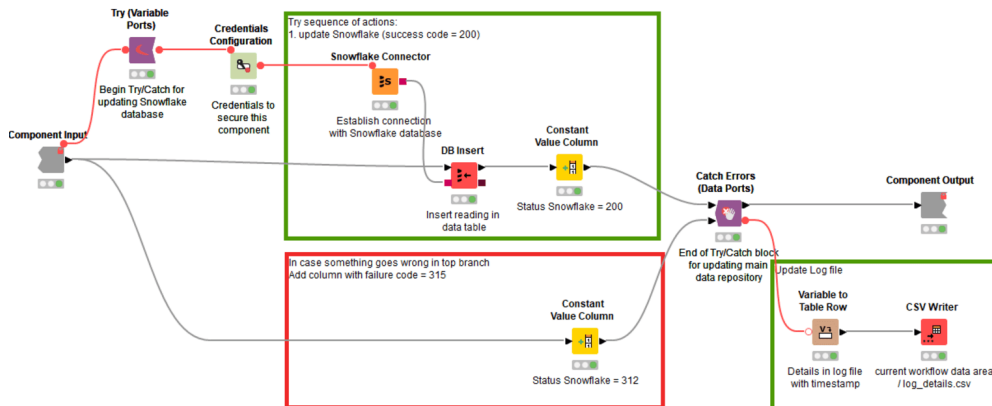

Fig. 4: Try/Catch block for handling error when updating Snowflake database.
Databases are databases and sometimes they might not be available. They are down, credentials have changed, maybe unreachable, and so on. You know it. We need some kind of construct for a graceful exit in case the database is not available. We encased the database operation within a Try/Catch block (Fig. 4). The upper part of the Try/Catch block, i.e. the Try part, covers the database operation and adds an execution code 200 for success. The lower part, i.e. the Catch part, provides the graceful exit. In case the database operation did not succeed, a status code 312 for failure is provided. The component execution thus is always successful, only that in one case produces a success code (200) and in the other case a failure code (312).